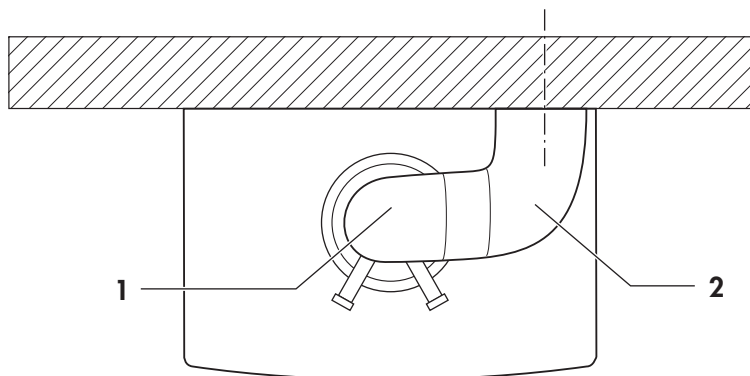
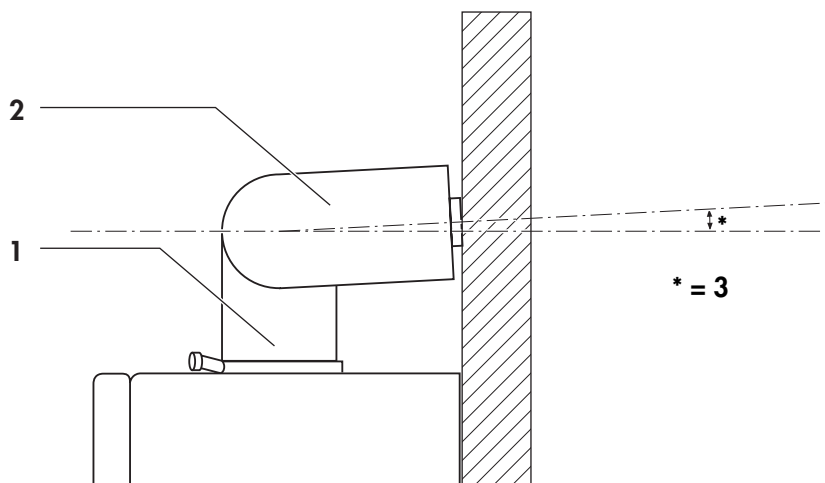

Fig. 6.1: Arrangement of 2 x 87° elbows - View from above
Fig. 6.3: Arrangement of 2 x 87° elbows - View from side
- When using 2 x 87° elbows follow fig. 6.1 to fig. 6.3 to avoid obstructions on outer wall.